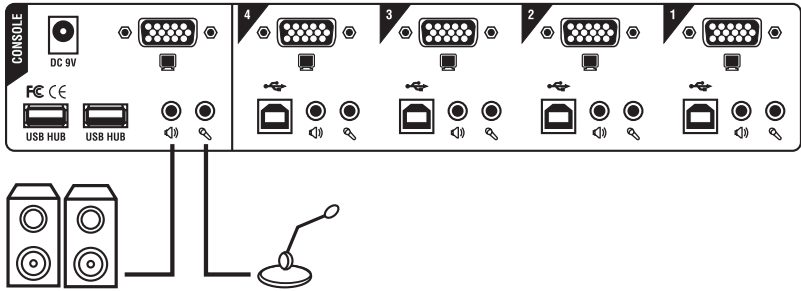

Figure 3-3. Audio connections.
4. Connect the speaker and microphone connectors from your computer to the audio ports on the back of the unit. See Figure 3-3.